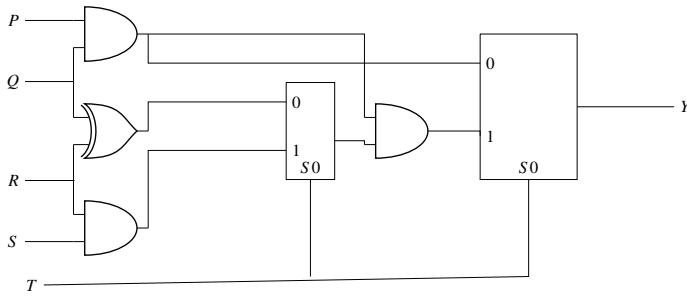

Fig. 3.17: circuit diagram
33. The propagation delays of the XOR gate, AND gate and multiplexer (*MUX*) in the circuit shown in Fig. 3.17 are $4ns$, $2ns$ and $1ns$, respectively. If all the inputs P, Q, R, S and T are applied simultaneously and held constant, the maximum propagation delay of the circuit is